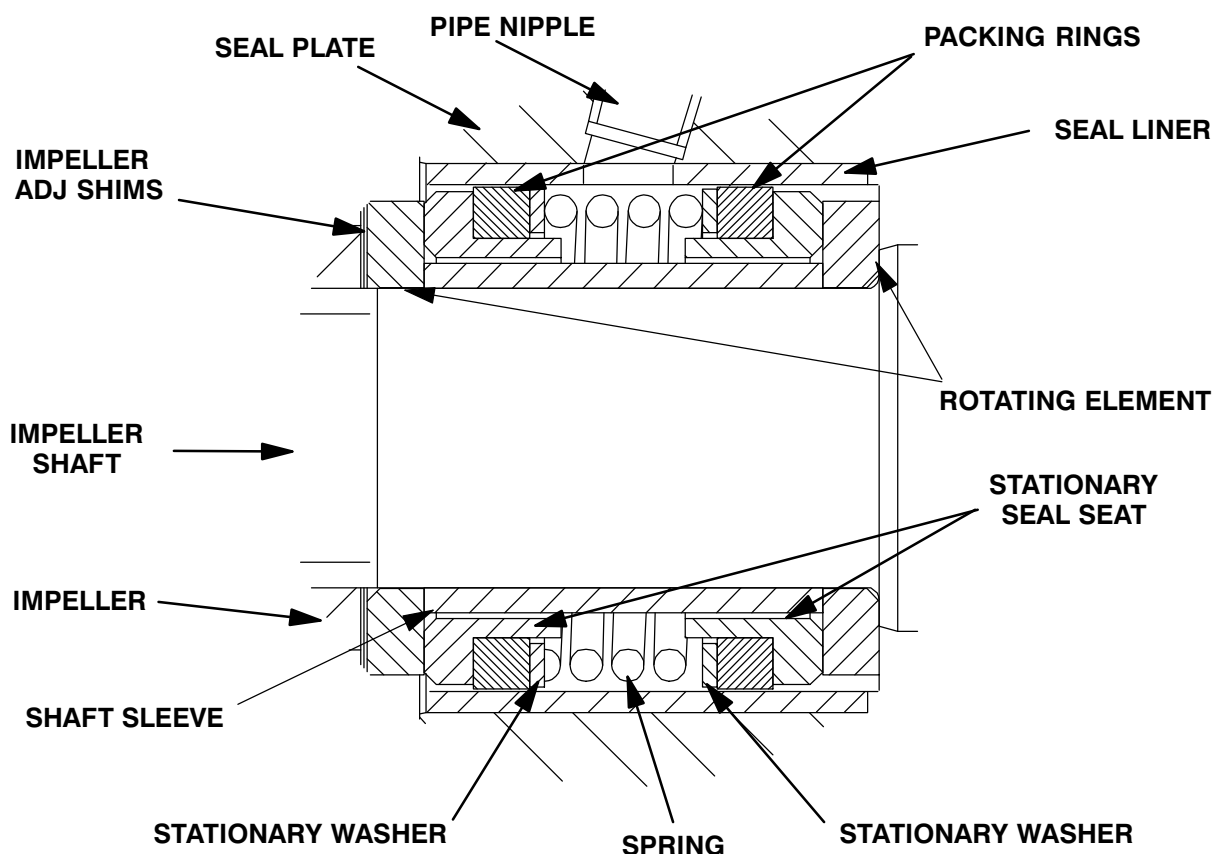

Figure 6. GS1500 Seal Assembly
Turn the cross arm on the automatic lubricating grease cup (27) clockwise until it rests against the cover (see Figure 6). This will prevent the grease from escaping when the impeller is removed.
To ease installation of the seal, lubricate the packing rings and seal liner with water or a very **small** amount of oil, and apply a drop of light lubricating oil on the finished faces. Assemble the seal as follows, (see Figure 6).